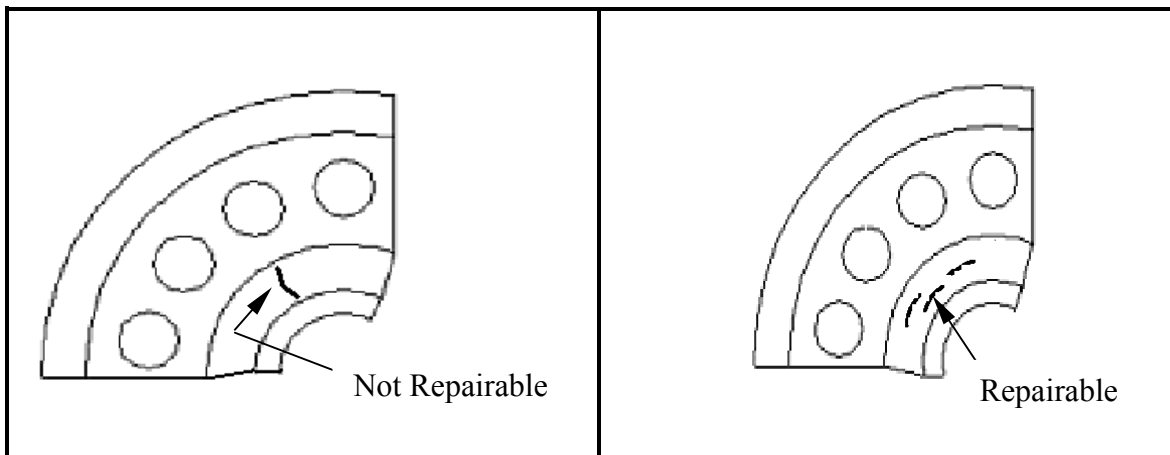

FIGURE 1-4
- Figure 1-4 shows a Male seal surface that is not repairable and one that is repairable. **Contact Taper-Lok for both situations before taking any actions.** The following steps indicate how to repair the repairable portion of damage. Shallow scratches (shown in the repairable section of Figure 1-4 below) and any surface blemishes can be removed by lightly buffing first with (240) grit followed by (320) grit emery cloth.